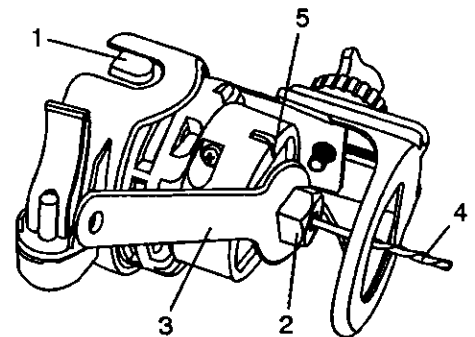

Fig. 2
- 1 Depress the shaft locking button (1) and rotate the collet lock nut (2) clockwise with the other hand until the locking button drops into place, preventing the shaft from turning (see Fig 2)
- 2 While continuing to hold the shaft locking button IN, use the collet wrench (3) to turn the collet nut counter clockwise Loosen the collet nut two or three turns
The motor unit has two built-in work lights (5) (see Fig 2) These work lights automatically light up when the motor switch is turned ON. Patterns or drawings in the immediate vicinity of the bit will be illuminated for better visibility and improved cutting accuracy
3. Install cutting bit in the collet as shown in Fig 2